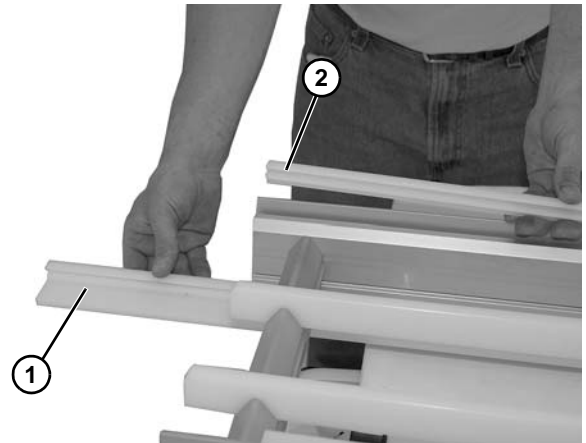

Figure 37
2. Slide lower wear strips (Figure 37, item 1), and raise wear strips (Figure 37, item 2) from frame assembly.